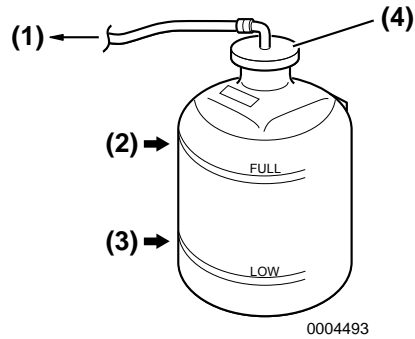

Figure 19
- 5. Check the coolant level in the coolant recovery tank. The level should be at the FULL mark (**Figure 19, (2)**). Add coolant if necessary. NOTICE: *NEVER pour cold coolant into a hot engine.*
- 6. Remove coolant recovery tank cap (**Figure 19, (4)**) to add coolant if necessary. Do not add water.
8. Check the rubber hose **(Figure 19, (1))** connecting the coolant recovery tank to the coolant tank / heat exchanger. Replace if damaged.